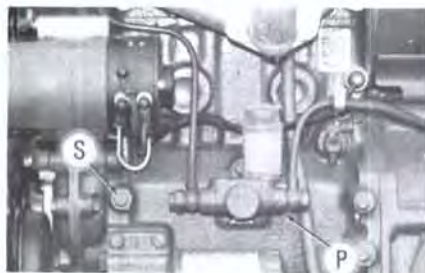

Fig. 34—To remove camshaft on Model L260, first remove fuel pump (P) and front bearing retaining set screw (S).
29. To remove camshaft, first remove timing gear cover as previously outlined. Remove rocker arm cover, rocker arms and push rods. Shut off fuel and remove primary fuel pump (P—Fig. 34). Remove camshaft front bearing retaining set screw (S). Support cam followers using magnets or by removing crankcase side cover; then withdraw camshaft, gear and front camshaft bearing as an assembly.